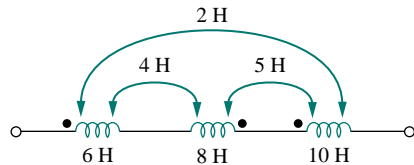

Figure 13.72 For Prob. 13.1.
- 13.1** For the three coupled coils in Fig. 13.72, calculate the total inductance.